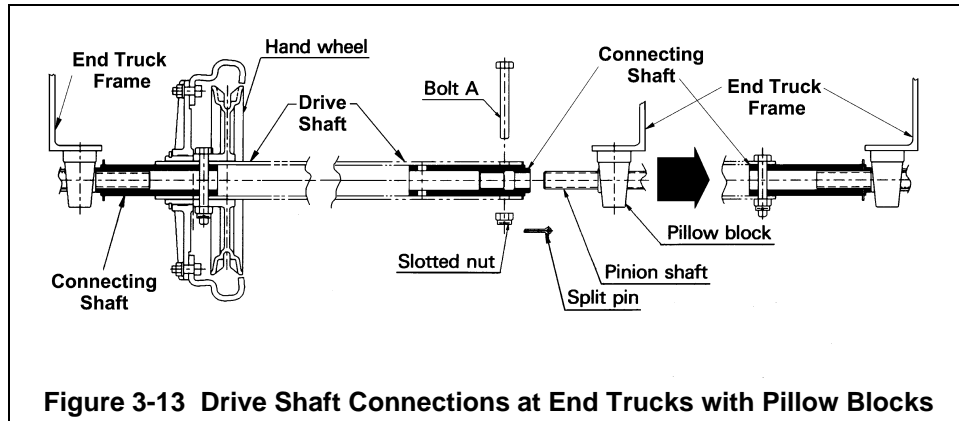
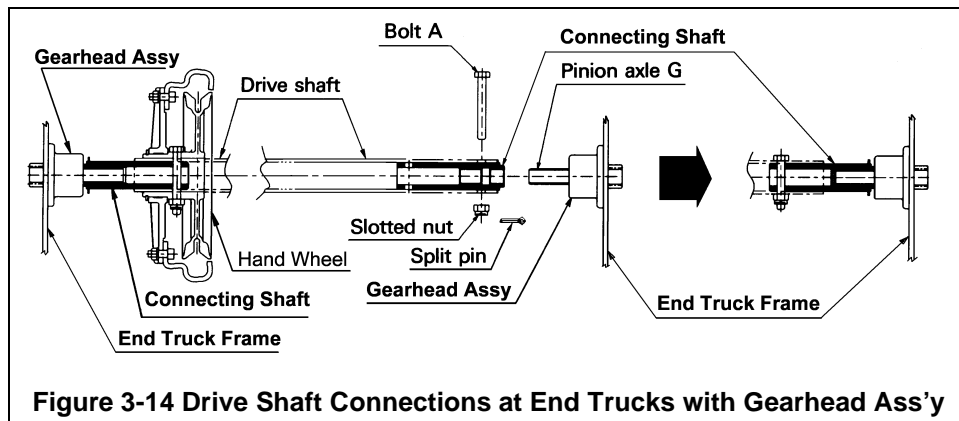

Figure 3-13 Drive Shaft Connections at End Trucks with Pillow Blocks
Figure 3-14 Drive Shaft Connections at End Trucks with Gearhead Ass'y
- (1) Slide the Hand Wheel over the Hand Wheel End of the Drive Shaft (the Hand Wheel end of the Drive Shaft is the end with a through-bolt hole two inches from the shaft end).
- (2) Refer to Figure 3-13 or Figure 3-14 whichever applies and insert the connecting shafts into both ends of the Drive Shaft. Line up the three holes at the Hand Wheel end - hole in the hub of the Hand Wheel, hole in the Drive Shaft and the hole in the Connecting Shaft. Insert the long Bolt B and fasten using the nut and split pin.
- (3) Next, hold the Hand Wheel end of the Drive Shaft adjacent to the splined Pinion Shaft/Axle. Slide the Connecting Shaft onto the Pinion Shaft/Axle. Refer to Figure 3-13 or Figure 3-14 whichever applies.
- (4) Last, line up the remaining end of the Drive Shaft with the splined Pinion Shaft/Axle on the other end truck and slide out the Connecting Shaft from the end of the Drive Shaft until the through-bolt holes line up between the Connecting Shaft and Drive Shaft. Fasten the Drive Shaft to the Connecting Shaft using Bolt A, the slotted nut and split pin.
- (2) Refer to Figure 3-13 or Figure 3-14 whichever applies and insert the Connecting Shaft into the Hand Wheel end of the Drive Shaft. Line up the three holes - hole in the hub of
- (1) Refer to Figure 3-13 or Figure 3-14 whichever applies and insert the Connecting Shaft into the end truck side of the Drive Shaft (the end truck "end" has the through-bolt hole 51 mm from the end of the Drive Shaft). Leave the Connecting Shaft fully inserted. Do not line up the through-bolt holes and do not fasten yet.
- (2) Slide the end truck side of the Drive Shaft (with connecting shaft fully inserted) onto the splined Pinion Shaft/Axle of the end truck. Refer to Figure 3-13 or Figure 3-14 whichever applies. Do not attempt to line up holes or fasten hardware.